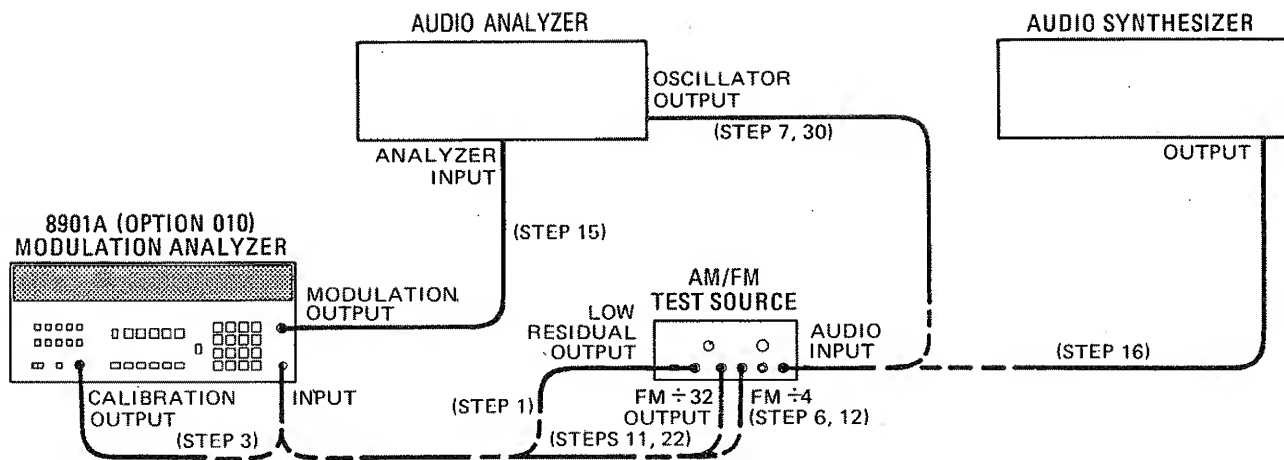

Figure 4-3. FM Performance Test Setup
1. On the AM/FM test source, set the test mode to residual FM. Connect its low-residual (560 MHz) output to the Modulation Analyzer's INPUT. (See figure 4-3.)
3. Connect the Modulation Analyzer's CALIBRATION OUTPUT to the INPUT. (See figure 4-3.)
6. On the AM/FM test source, set the test mode to FM. Connect its FM÷4 output to the Modulation Analyzer's INPUT. (See figure 4-3.)
7. Set the audio analyzer's source to 10 kHz at 0.5 V. Connect its output to the audio input of the AM/FM test source. (See figure 4-3.)
11. Connect the FM÷32 output of the AM/FM test source to the Modulation Analyzer's INPUT without disturbing the AM/FM test source's controls. (See figure 4-3.) Multiply the displayed ratio on the Modulation Analyzer by the calibration factor of step 4. (For example, if the display reads 12.52% REL and the calibration factor of step 4 is 100.4%, the result is $12.52 \times 100.4 = 12.57\%$ REL.) The result should be between 12.35 and 12.65% REL.
12. Connect the FM÷4 output of the AM/FM test source to the Modulation Analyzer's INPUT. (See figure 4-3.)
15. Connect the audio analyzer's input to the Modulation Analyzer's MODULATION OUTPUT. (See figure 4-3.) Set the audio analyzer to measure the distortion on the 100 kHz signal at the MODULATION OUTPUT (all audio analyzer filters should be off). The distortion should be 0.1% or less (-60 dB or less).
16. Set the audio synthesizer to 10 kHz at +5 dBm. Connect its output to the audio input of the AM/FM test source. (See figure 4-3.) Fine adjust the level for a Modulation Analyzer display of 100 kHz times the calibration factor of step 5. (For example, if the calibration factor of step 5 is 100.4%, set the level for a display of 100.4 kHz.)
22. Connect the FM÷32 output of the AM/FM test source to the Modulation Analyzer's INPUT. (See figure 4-3.)
30. Set the audio analyzer's source to 10 kHz at 2 V. Connect its output to the audio input of the AM/FM test source. (See figure 4-3.) Fine adjust the oscillator level for a Modulation Analyzer display of 10 kHz peak deviation.